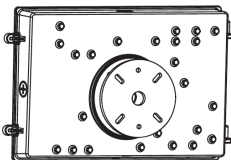

Fig. 1.4
4. Peel and stick the foam pad to the back of the mounting plate. (Fig. 1.4)